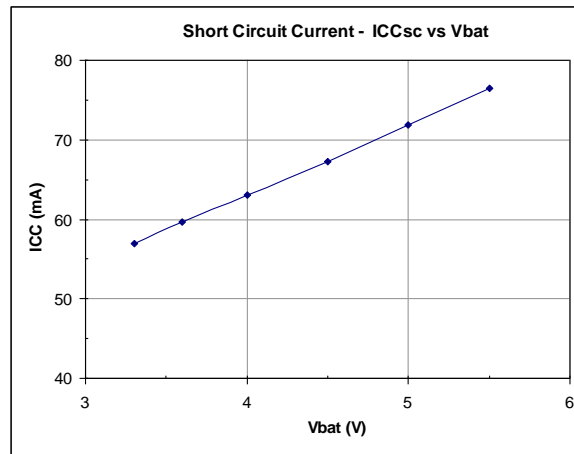

Figure 4: Short-Circuit Current / $SIM_V_{CC} = 3\text{ V}$ (idem with 1.8 V), $Temp = 25^\circ\text{C}$
4. Max I_{SIM_VCC} current. (Figure 4)
- Using the SIM_VCC load jumper the user can connect the SIM_VCC output to a 100 Ω potentiometer and pull up the nominal I_{SIM_VCC} current to 50 mA. See figure on next page for current meter connection points. This potentiometer can also be used to measure the I_{SIM_VCC} Short Circuit and maximum allowable currents. See Figure 4.